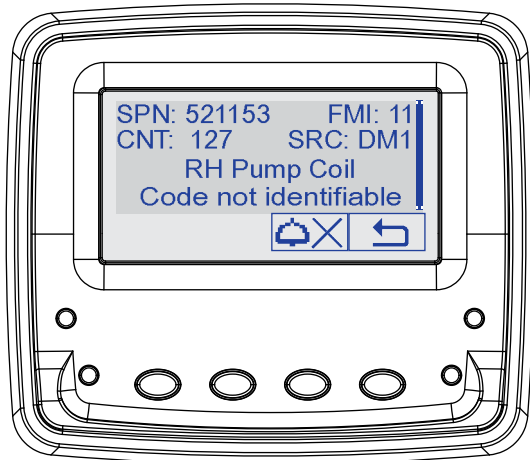

Figure 58. Diagnostic Display (Fault Code Screen)
1. Press the button on the right side of the display to view the active fault code (Figure 58).